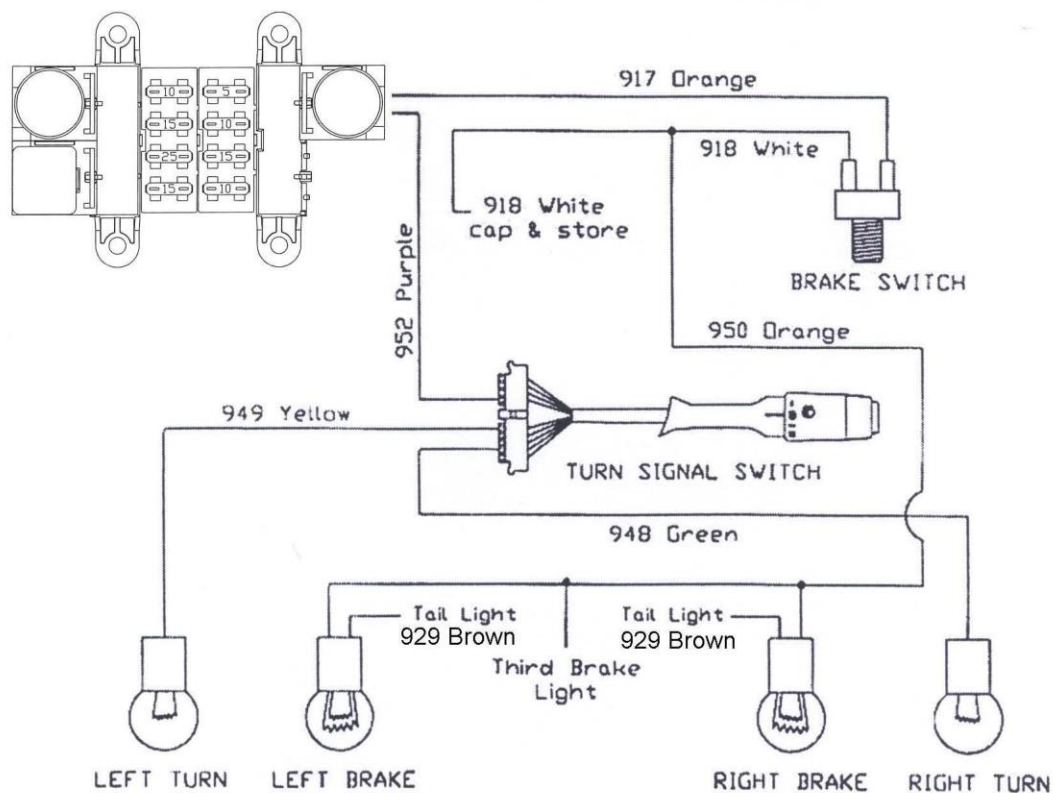

Figure 10-7 Integrated Brake Lights & Separate Turn/Brake Lights
- 10.8.2** These 4 wires will be connected according to one of the diagrams shown in **Figure 10-7**. Which diagram you will use depends on whether or not you have one bulb on each side of the vehicle that is for the brake/tail **and** Turn Signal Lights (this is referred to as integrated lights) **or** you have **more than one** bulb on each side **and** the Brake and Turn Signal Lights are hooked to different bulbs (referred to as separate Brake/Turn Lights).